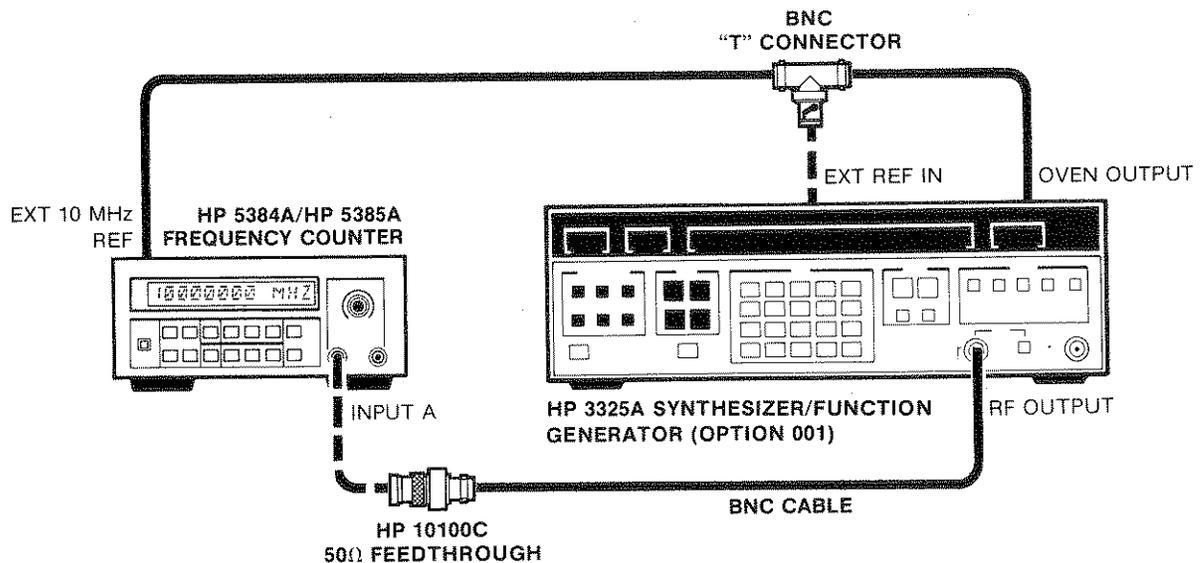

Figure 4-5. Period A Test Setup
- a. Connect the HP 3325A synthesizer/function generator to the HP 5384A/HP 5385A Channel A input as shown in Figure 4-5.